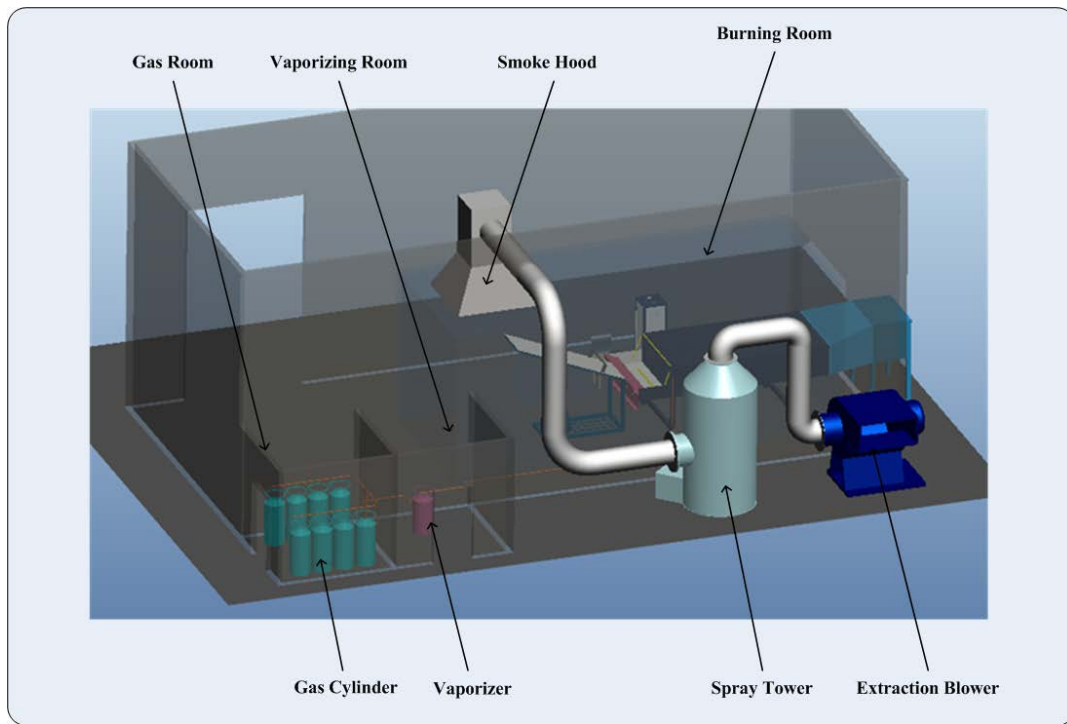

Figure 1
2.7 Room (figure 1 as reference)